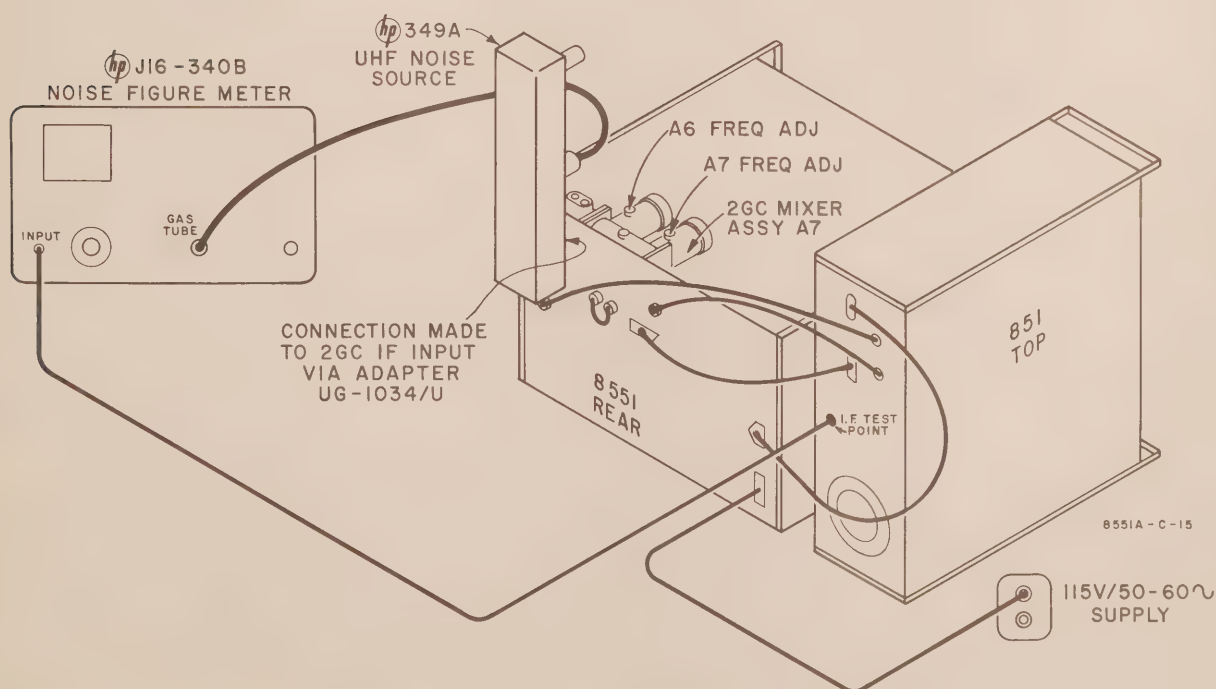
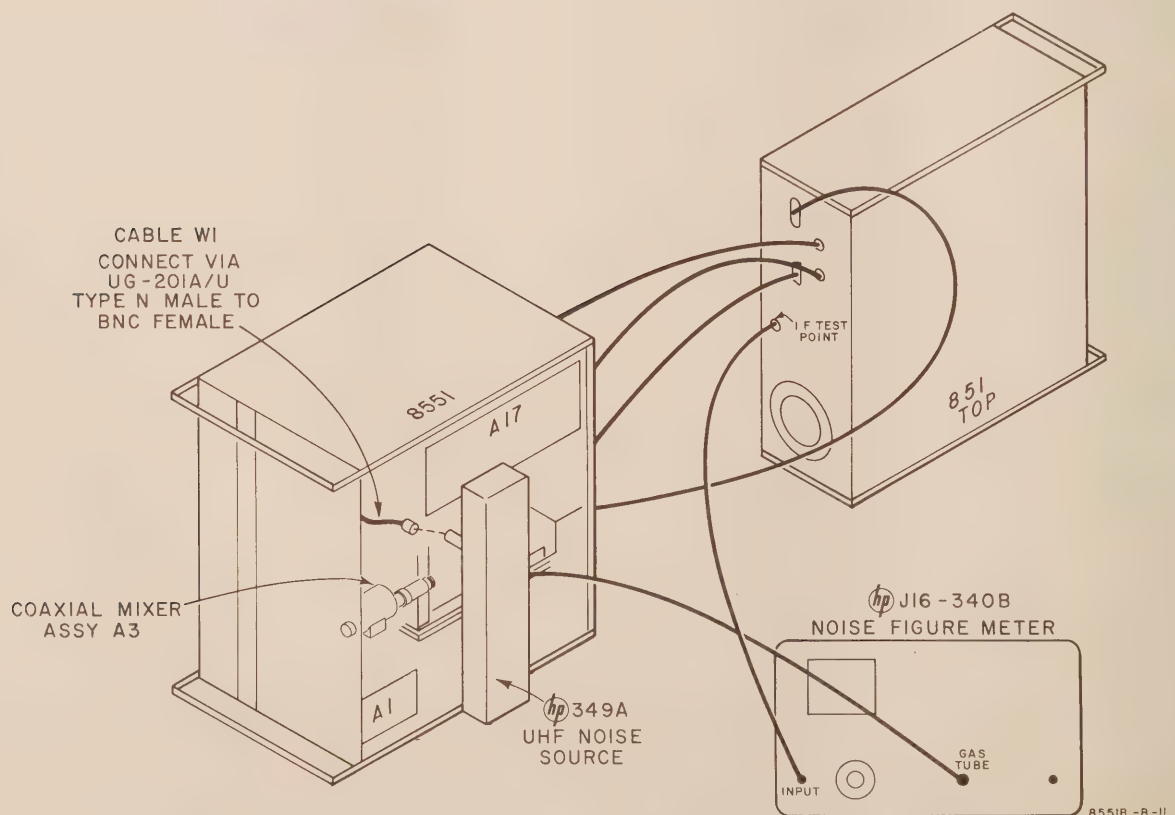
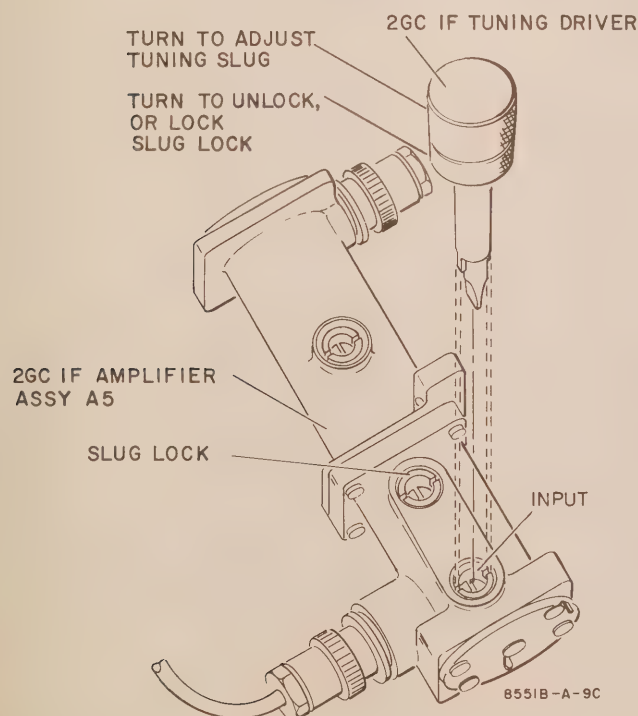

Figure 5-11. Setup, 2GC Mixer A7 Noise Figure Measurement
Figure 5-12. Setup, 2GC IF Amplifier A5 Noise Figure Measurement
Figure 5-13. Using 2GC IF Tuning Driver
g. Tune A6 FREQ ADJ (Figure 5-11) for maximum milliammeter reading.
a. Setup. See Figure 5-11.
- (1) Connect 349A UHF Noise Source to J16-340B Noise Figure Meter.
- b. Disconnect Cable W1 from connector J14 on Coaxial Mixer Assembly A3 (see Figure 5-12).
- d. Measure noise figure (see Paragraph 5-90b, steps (1), (2). (Noise figure should be < 13 dB.)
- e. If noise figure is more than 13 dB, tune the A, B and C FREQ ADJ tuning slugs. Use a 2 Gc IF Tuning Driver, and work from left to right, with FREQ ADJA (see Figure 6-4) considered as the adjust farthest left. Figure 5-13 shows how to use the 2 Gc IF driver. Unlock the slug lock, adjust each tuning slug for minimum noise-figure indication on the noise figure meter, and lock each FREQ ADJ tuning slug as it is tuned. Repeat the tuning a second time for optimum results. (Noise figure should be \leq 13 dB.
b. Tune A7 FREQ ADJ (Figure 5-11) and all three A5 frequency adjustments (starting with FREQ ADJ A - see Figure 5-13) for maximum signal amplitude on CRT. Use a crowfoot wrench with a well insulated handle to loosen the hex nut on A7.